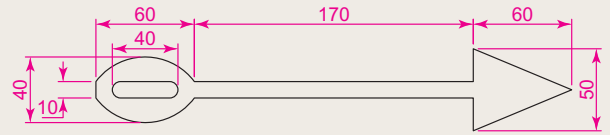

Fig. 3.54 Exercise 10
10. Construct Fig. 3.54 using the **Line** and **Arc** tools. Then change all widths of lines and arcs to a width of 2 with **Edit Polyline**.